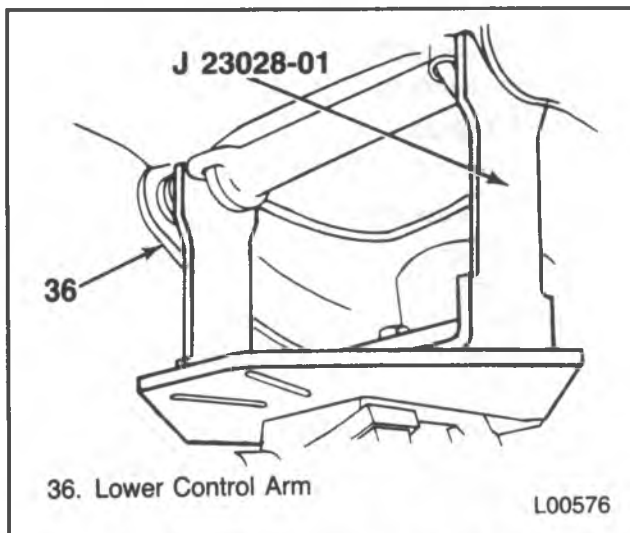

Figure 23 — Removing the Coil Spring
2. Shock absorber (20) at the lower end and move it aside.
3. Nuts (38), bolts (43), washers (41) and clamp (42).
4. Stabilizer bar (59) from the lower control arm (36).
5. Nuts (49) and washers (48).
- Install J 23028-01 on a suitable jack and then under the lower control arm as shown in Figure 23.